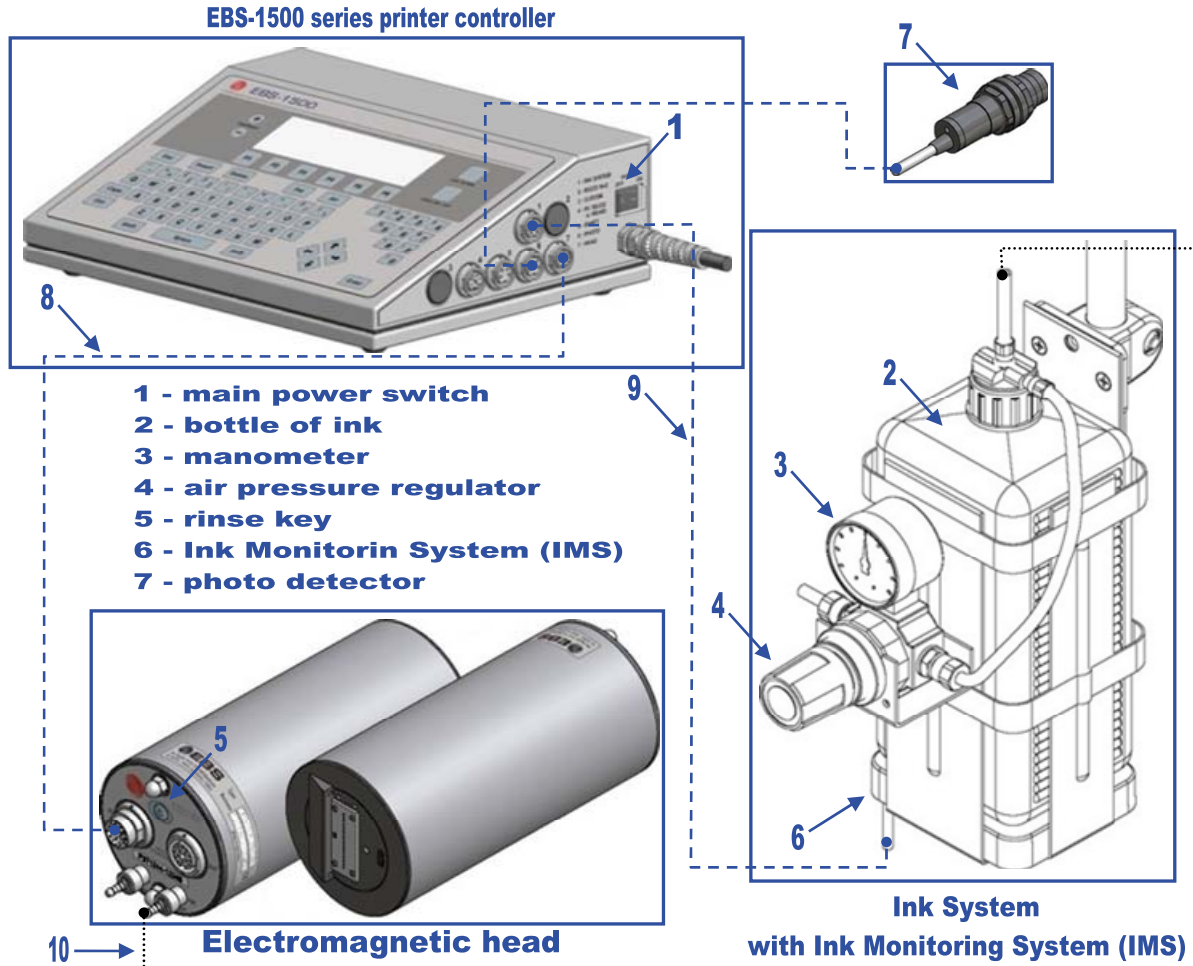

Fig. 2.1
Major components of the printer with a single electromagnetic head are shown in **Fig. 2.1**.
In addition, the printing system may contain many other subassemblies such as a shaft-encoder, assembly jigs and tubes, cables (e.g. a cable to connect the printer controller with the head – see item 8 in **Fig. 2.1**, IMS signal cable – see item 9 in **Fig. 2.1**), ink tubes – e.g. item 10 in **Fig. 2.1**, an additional external signalling device and many others. For more details refer to section *Installation of the Printer* in *The **EBS-1500** Printer User's Manual*.
The compressed air pressure is adjusted with a regulator (item 4 in **Fig. 2.1**). After preliminary settings of the print parameters have been made (see section **4.5 Setting Print Parameters**) adjust the pressure so that the optimum print quality is ensured (changes in pressure result in changes in the size of ink drops in your print). Ink consumption increases along with pressure increase. If the pressure setting is too high, the print may be distorted (e.g. the print intensity may be too high, ink splashes may occur around the print, neighbouring drops may overlap).
The ON/OFF power switch is situated on the right side wall of the unit next to the feeder cable. It isolates both power leads from the mains (see item 1 in **Fig. 2.1).**